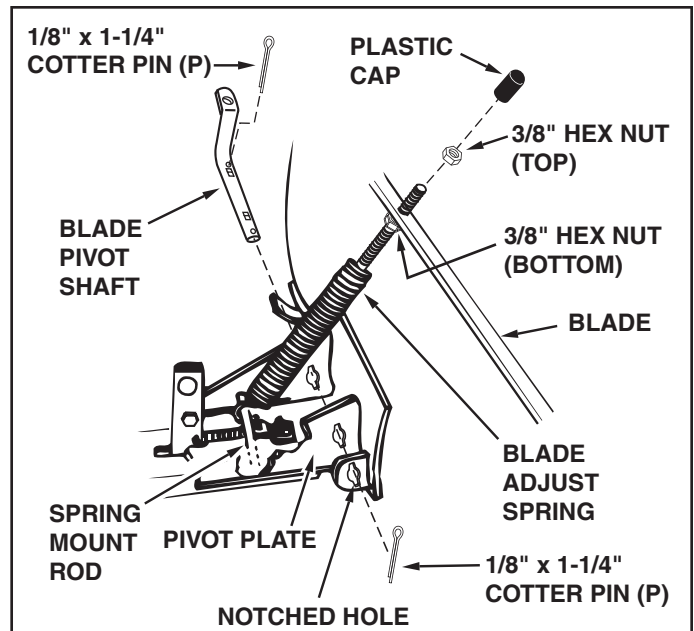

FIGURE 17 (Right Hand Side View)
STEP 17: (SEE FIGURE 17)
- To attach the blade to the channel assembly, align the notched holes in the pivot plate with the notched holes in the blade. Insert a 1/8" x 1-1/4" cotter pin (P) down through the hole at the bend in the blade pivot shaft. Spread the ends of the pin. From the left side insert the blade pivot shaft, bend facing top of blade, through the notched holes. Secure the shaft with another 1/8" x 1-1/4" cotter pin (P) through the end hole in the shaft. Spread the ends of the pin.
- The tension of the blade adjust spring may be altered to permit the blade to tilt forward to bypass solid obstructions. To change the spring tension, adjust the nuts at upper end of the spring bolt. Standing in front of blade, turn the nuts counterclockwise to relieve tension and clockwise to increase tension. Refer to figure 17 on page 9.